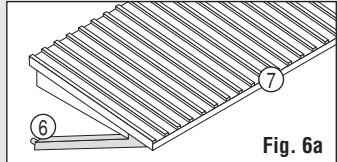

Fig. 6a
- Glue Awning Bracket (6) to Awning (7) (Fig. 6a).